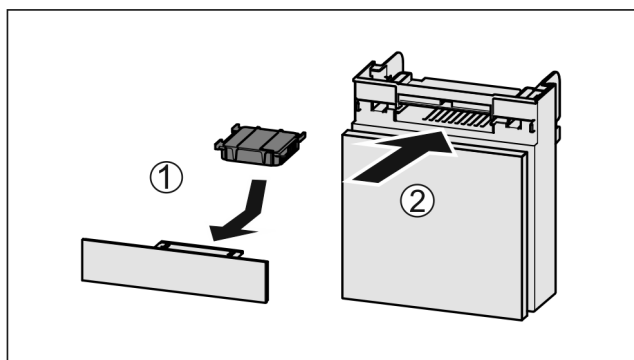

Fig. 56
- Insert the carbon filter as shown in the diagram Fig. 56 (1).
- Push the compartment in Fig. 56 (2).